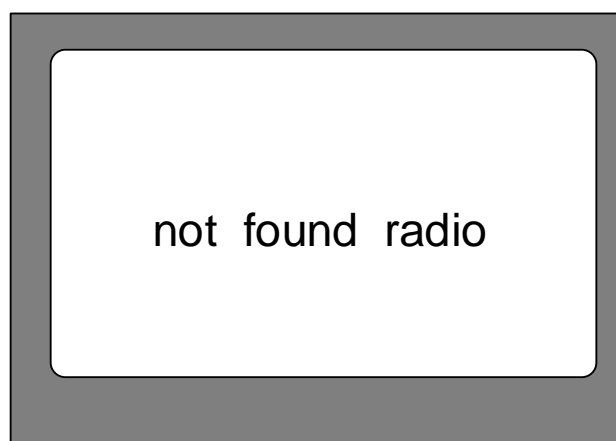

Figure 2-2. Startup Interface as RF Identification Failed
- The startup interface of RF identified failed is shown as Fig 2-2 (chip abnormal)